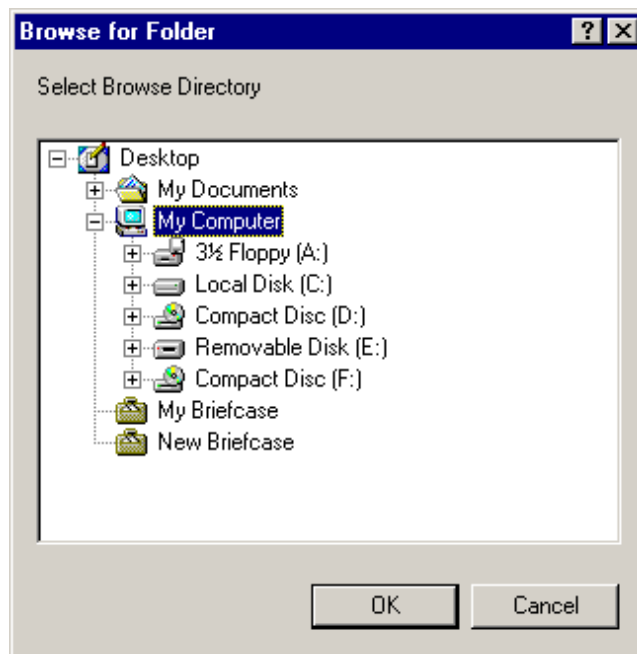

Figure 5-37: The Browse for Folder Directory
- a) Click on **Change >>>** to present Figure 5-37.